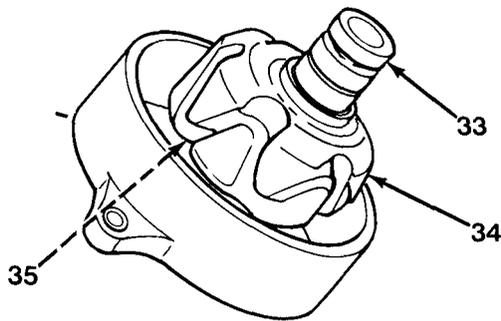
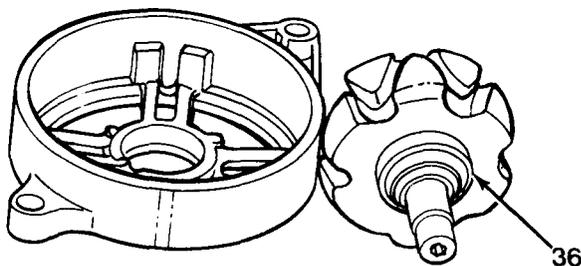
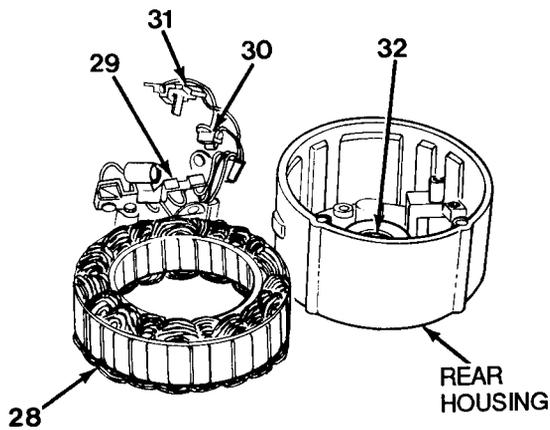

Figure 10-10
Figure 10-11
Figure 10-9
13. Remove rear bearing (33), if necessary, from rotor assembly (34, Figure 10-10) secured in a vice.
14. Compress ears of front bearing retainer (35) and lift bearing retainer (35) free of recess.
15. Place rotor assembly (34) on an arbor press and push rotor assembly (34) from front housing.
16. Using a split collar puller, remove front bearing (36, Figure 10-11), if necessary, from rotor shaft. Use a thick washer between bearing puller shaft and thread end of rotor to prevent damage to rotor.
1. Using a press, install front bearing (36, Figure 10-11), if removed, on rotor shaft.
2. Using a press, install rotor assembly (34, Figure 10-10) into front housing.
3. Secure front bearing retainer (35) into recess.
4. Using a press, install rear bearing (33), if removed, to rotor assembly (34).
5. Using a press, install rear bearing retainer (32, Figure 10-9), if removed, to rear housing.
6. Install terminal (31), AC terminal (30), diode bridge rectifier (29) and stator assembly (28, Figure 10-9) as an assembly to rear housing. Leave stator assembly (28) pulled away from rear housing.
8. Install two self-tapping screws (26) and carriage bolt (25) to diode bridge rectifier (29, Figure 10-9) inside rear housing.